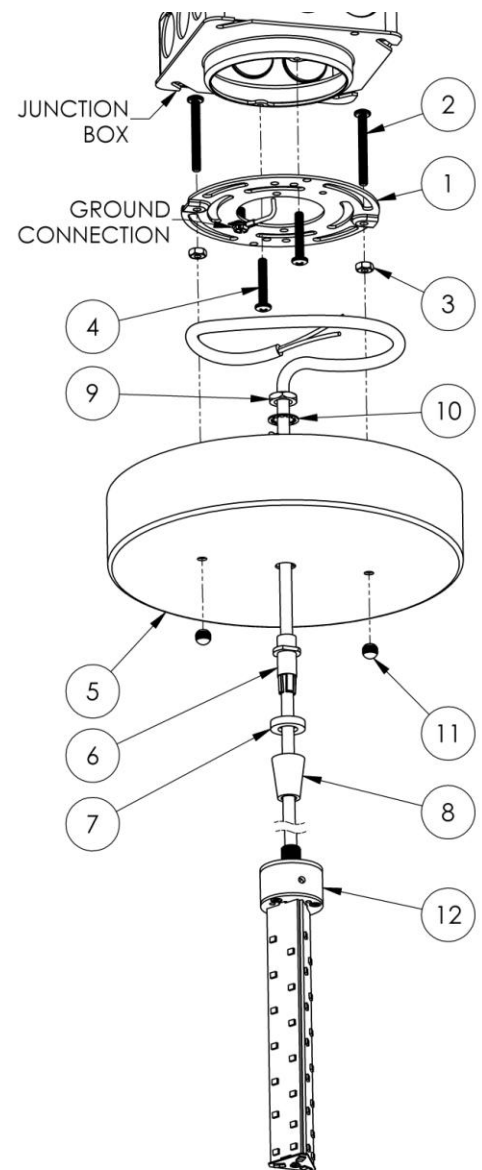

Figure 1
- Uncoil clear cord, part of LED pendant (12) and thread the loose end through strain relief, which has 3 parts (6), (7) & (8), Thread thru small end of cone shaped part (8) first, finished side of (7) and cable grip fingers of (6) so all face down toward pendant holder, Figure 1.
- Temporarily secure strain relief onto cord at desired height by tightening (8) onto plastic threaded cord grip (6) as shown in Figure 1.
- Feed the clear cord through these items in the following order after the strain relief parts, (8), (7) & (6): Center hole of the canopy (5), lock washer (10) and jam nut (9) per Figure 1 & 3. Thread nut (9) onto strain relief grip (6) through center hole of canopy. Tighten jam nut with lock washer onto (6), inside the canopy.
- Thread two 1-1/2" long screws (2) into recessed tapped holes in gem bar (1). Secure these with nut (3) per Figure 1.
- Mount gem bar (1) with (2) & (3) to junction box with two shorter screws (4).
- This unit will not operate properly unless connected to a "grounded" electrical circuit. Electrical shock, overheating, low or no light output, and shortened lamp life can result if proper grounding is not done.* Securely attach green (or green and yellow) wire from supply to green ground screw in gem bar (1).